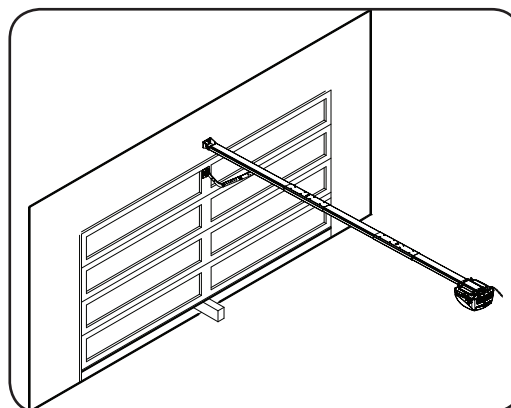

Fig. 30
- Place a piece of timber approximately 40mm high on the floor directly under the door (Fig 30).